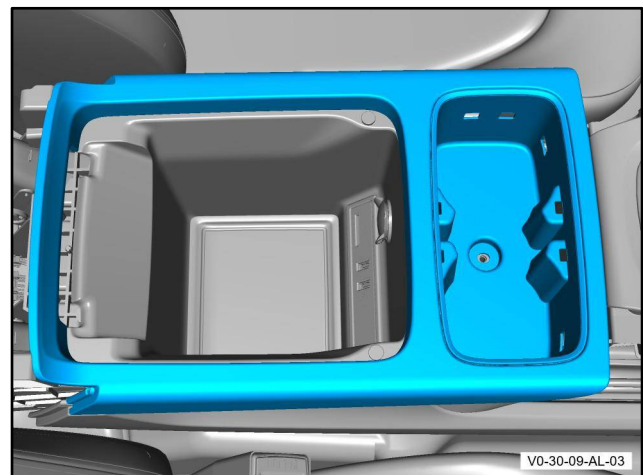

Figure 12
6. Remove the cup holder assembly from the centre console assembly (refer to Figure 12).